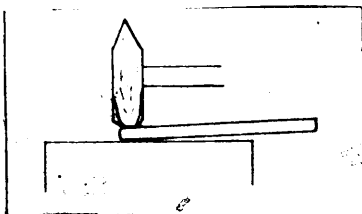
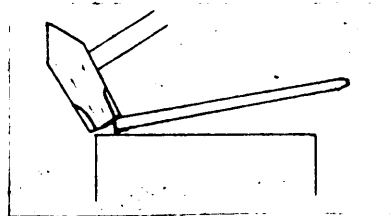

Figure 5.
Figure 6.
2. Stock should not be held flat on the anvil. (Figure 5) The back end of the stock should be raised. (Figure 6).
3. Hammering should be done with toe of the hammer lower than the heel. (Figure 6).